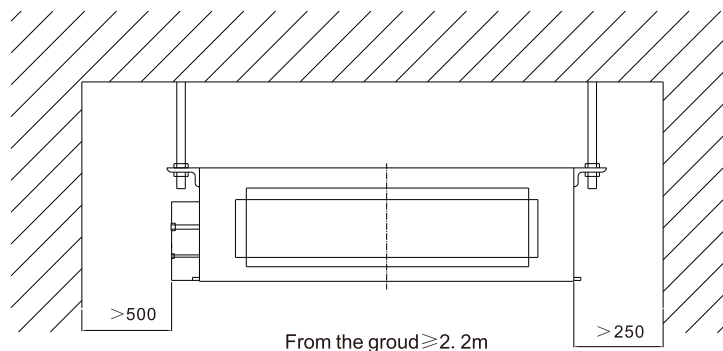

Figure 7
- (1) Sufficient strength to ensure that on top hanging parts to bear the weight of the unit.
- (2) Water is easily discharged from the drain.
- (3) Accessible in import and export, to maintain good air circulation.
- (4) In indoor unit, the install distance required in figure 7 must be ensured to make sure the space required by repair and maintenance is kept.
- (5) Away from place of heat, flammable gas leakage and smoke.
- (6) The machine is ceiling mounted (ceiling built-concealed installation).